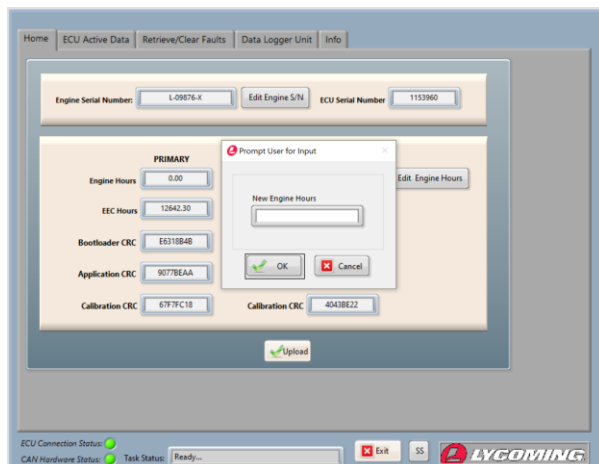

Figure 5
- A. Click the **Edit Engine Hours** (Figure 5) button on the “Engine Serial Number” panel.